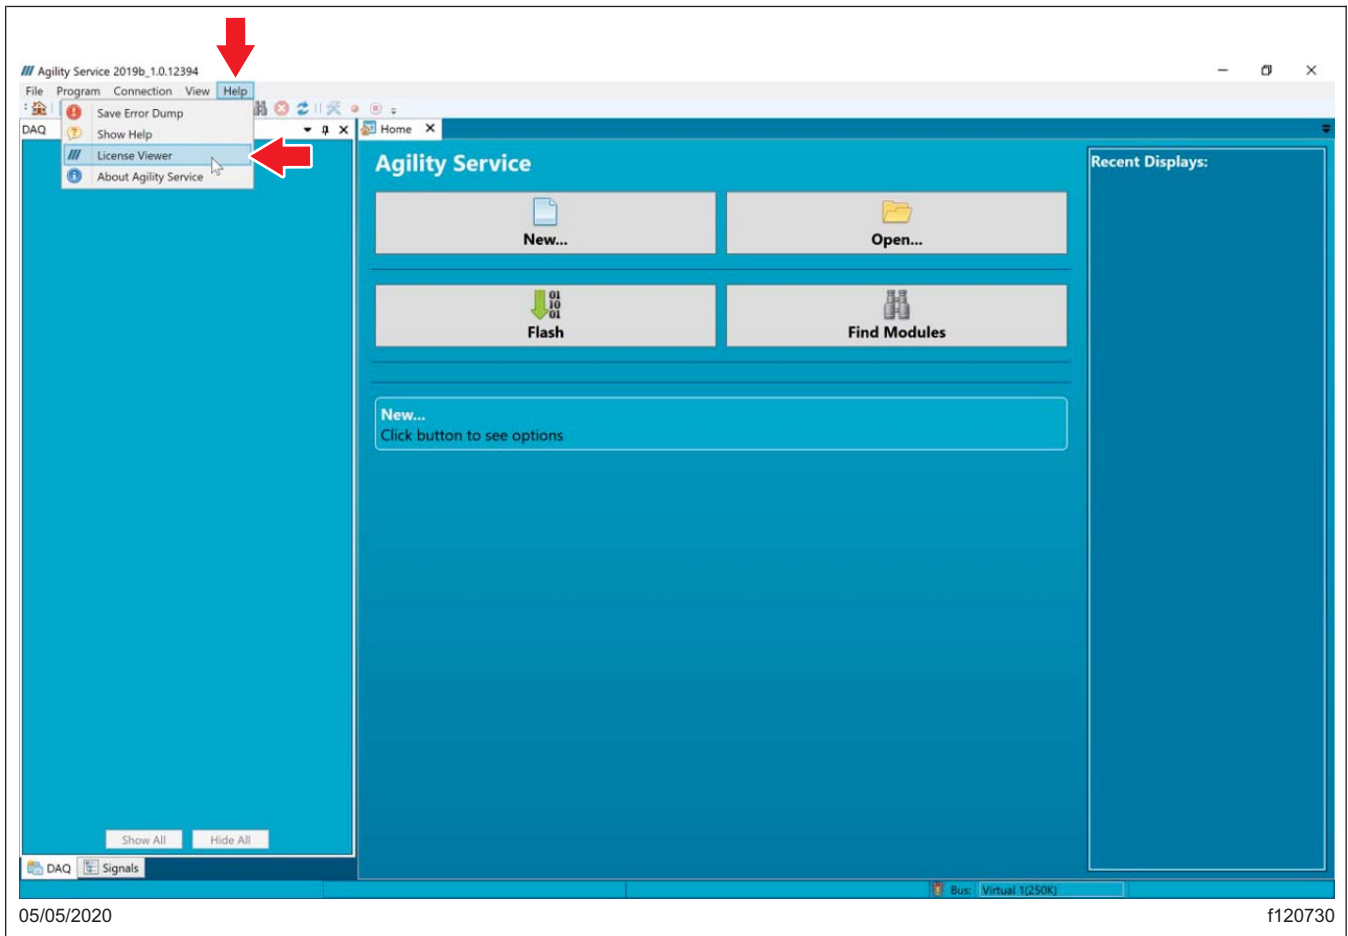

Fig. 23, Help Window
- When the Agility tool opens, select 'Help,' and then select 'License Viewer.' See Fig. 23.